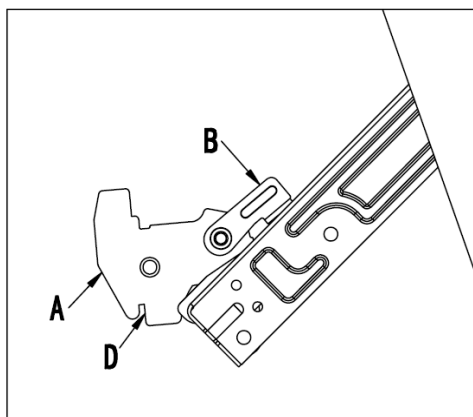

Fig. 1
- Open the door completely and lift the 2 levers “B” (fig.1).